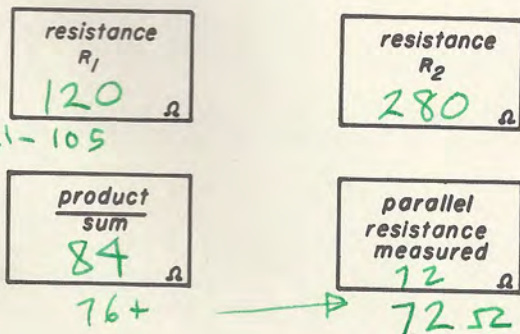

Fig. 8-16
Step 2. Record, in the first box of Fig. 8-16, the resistance of R_1 , as you measured it in Experiment 8-3.
Step 3. Record, in the second box of Fig. 8-16, the resistance of R_2 as you measured it in Experiment 8-3.
Step 4. Calculate the value of R_1 and R_2 in parallel in the way described above. Record this value in the third box of Fig. 8-16.
Step 5. Measure the value of the resistance of R_1 and R_2 in parallel by placing one prod on one end of R_1 and the other prod on the other end of R_1 . Naturally, you could also measure this resistance by placing one prod on one end of R_2 and the other prod on the other end of R_2 . In either case, you would get the same answer. Record this measurement in the fourth box of Fig. 8-16. The value of the resistance in the third box should equal that in the fourth box. If there is a great difference between the two values, check the figuring you did to get the calculated value.
Handwritten calculations for Fig. 8-16: